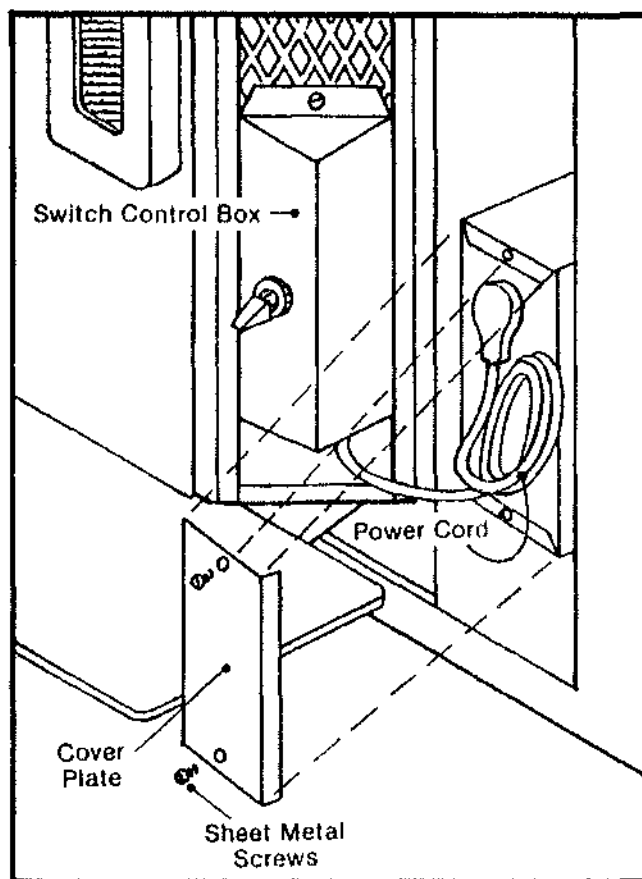

FIGURE 9
- j. Remove cover plate from BUCKMATE exposing receptacle. Roll up power cord so it will fit inside of cover box. Plug in power cord in receptacle. Replace cover plate. (See Figure 9).